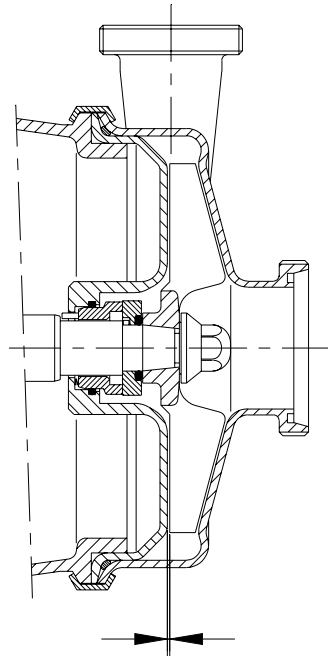

Figure 8.3: Clearance between impeller and pump cover.
- Slide the impeller (02) over the shaft up to the rotating part of the mechanical seal (08).
- Place an open-jaw wrench on the shaft flats (05) to keep it from rotating. Mount the O-ring (80D) into place and tighten the blind nut (45).
- Check that the clearance between the impeller and the cover (03) remains at 0,3 - 0,5 mm (0,7 mm. for S-70 and S-80 types) so that the working pressure of the seal would be the correct one; see Figure 8.3.